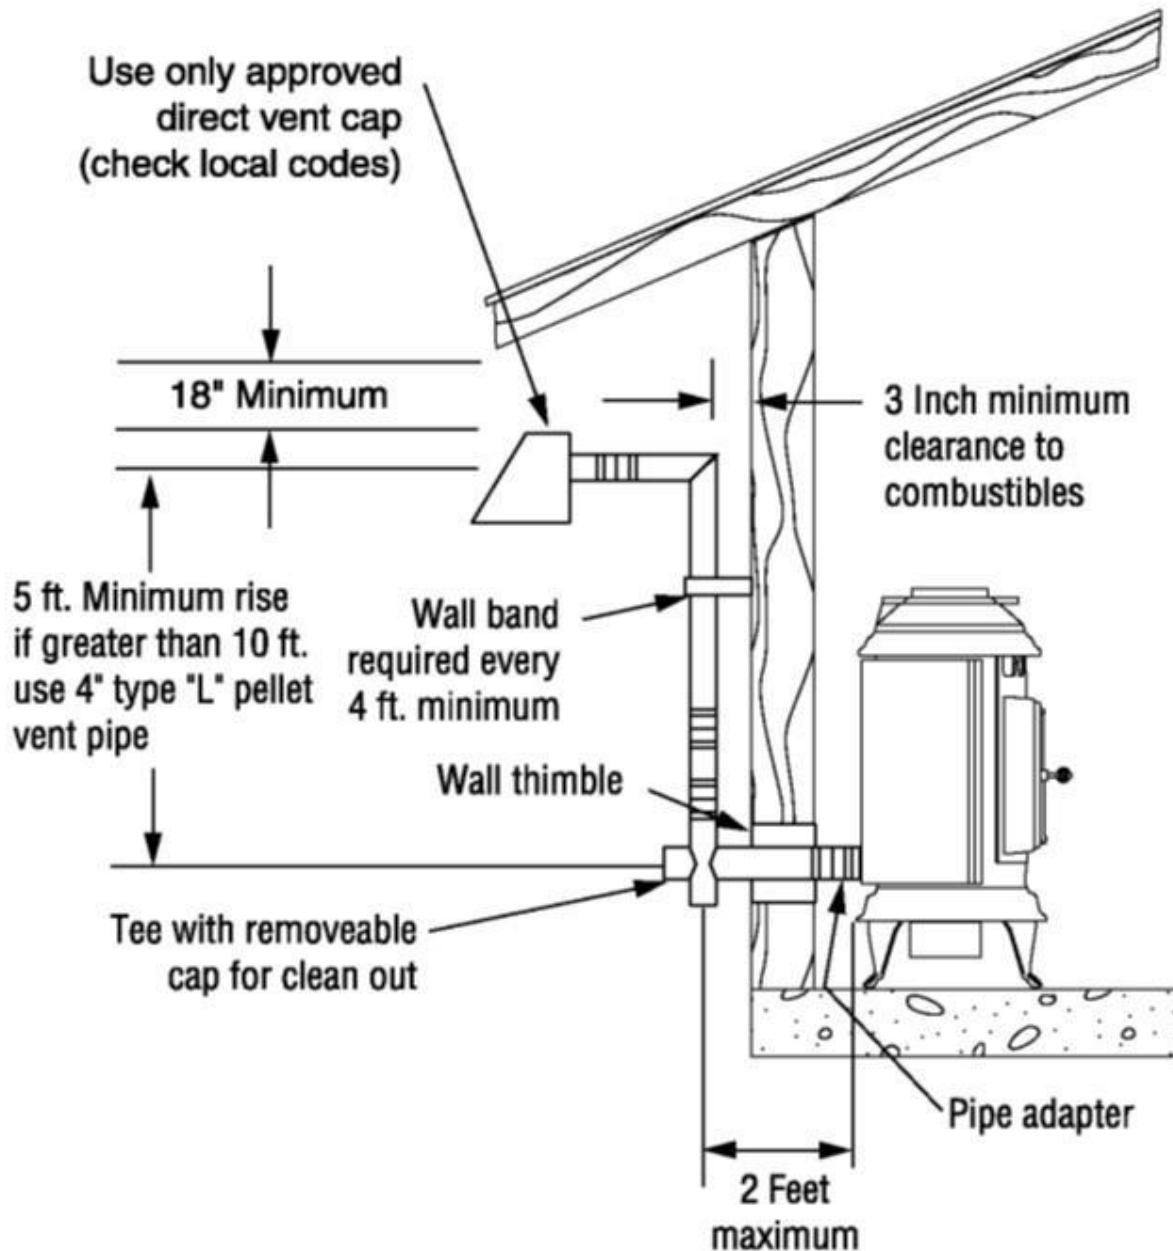

FIGURE 1
1. Outside combustion air is mandatory in mobile or modular home installations. An outside air inlet **MUST** be provided for combustion and ventilation air. The air inlet must remain unrestricted while unit is in use. Outside air connection is made at the air intake located on the rear of the stove (see **FIGURE 1**). The kit contains 2" flex tubing (part #43000-270). Outside air kit includes flex tube, hose clamp, and rodent screen/cap.
3. Connect a pellet vent tee with clean out cap and extend the vent pipe a MINIMUM OF 5 FT VERTICALLY maintaining a MINIMUM 3" clearance to combustibles with a square horizontal cap as shown in FIGURE 1.